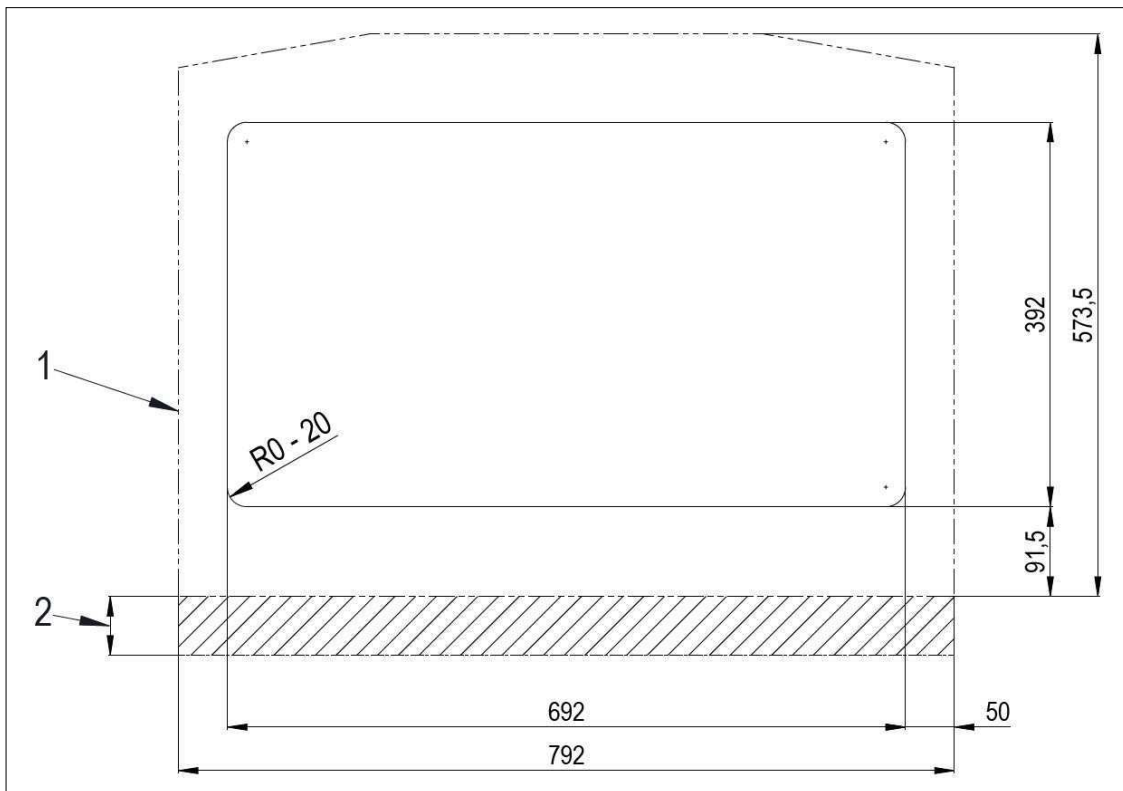

Figure 7 – PWT switch cabinet cut-out
- Provide switch cabinet with cut-out. For prescribed dimensions, see Figure 7.